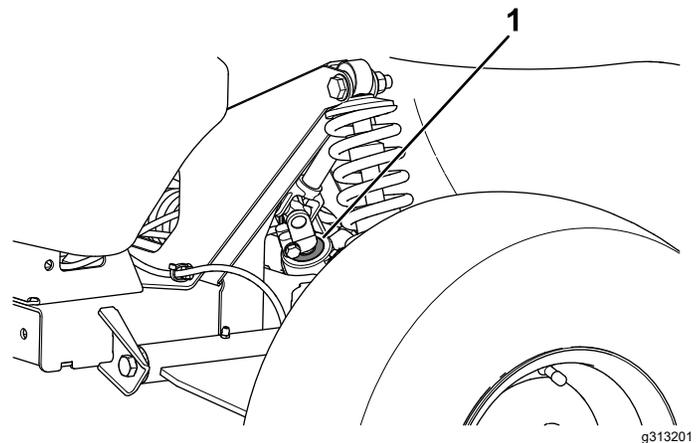

Figure 55
- **Important:** Inspect the condition and security of the pinion-shaft seal (Figure 55).